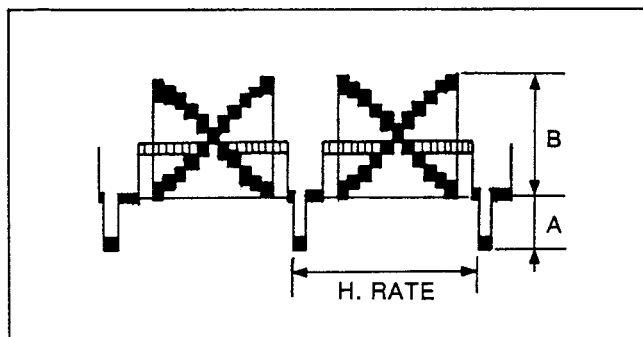

Fig. C12
- (1) Aim the camera at the Gray Scale Chart.
- (2) Connect the oscilloscope to pin7 of FP306.
- (3) Adjust the VR315 (YH level control) so that the signal ratio "B/A" becomes 2.33 ± 0.15 as shown in Fig. C12.